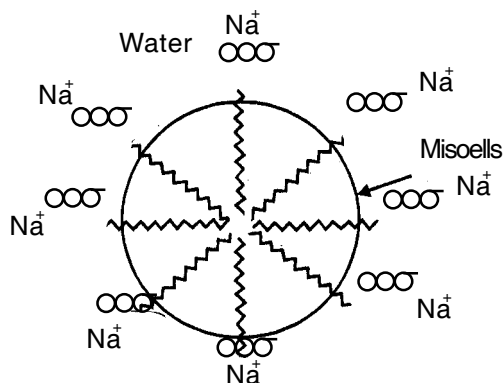

Fig. 10.1 : Aggregating of $R\text{CCO}^-$ ions to form a micelle.
- c) **Associated colloids** - These are substances which behave as normal electrolyte at low concentration but get associated at higher concentration to form micelle and behave as colloidal solution. Soap is an example. Soap is sodium salt of long chain fatty acid $R\text{COONa}$. When put in water, soap forms $R\text{CCO}^-$ and Na^+ . These $R\text{CCO}^-$ ions associate themselves around dirt particles as shown below forming a micelle (Fig. 10.1)